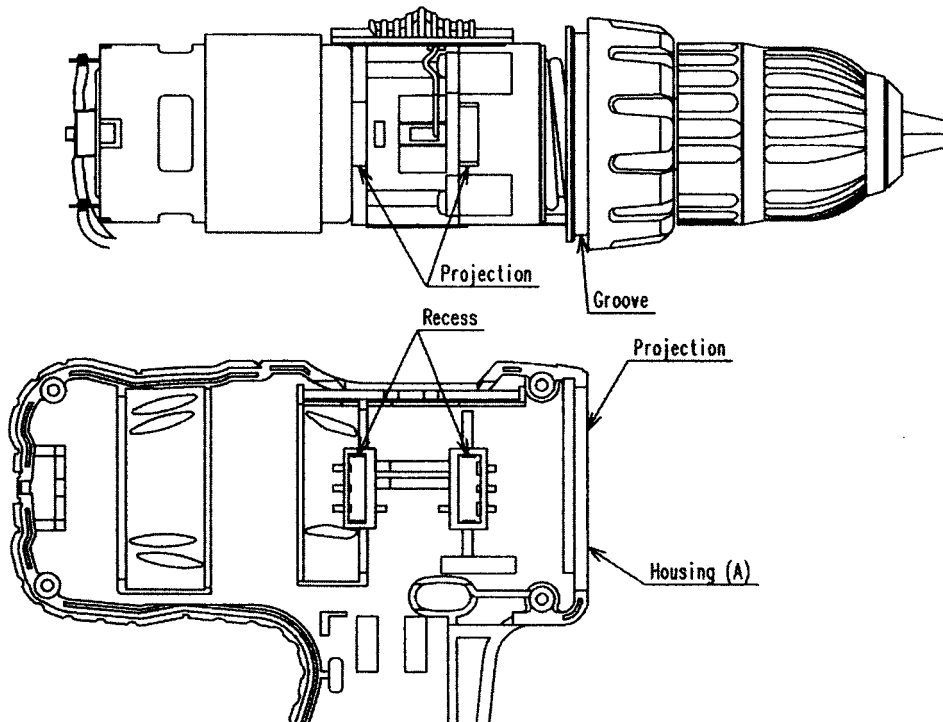

Fig. 13
(4) Installation of the assembly reassembled in step (3) into Housing (A). (B) Set [30]
(a) Install the assembly reassembled in step (3) into housing (A). Note that the projections on the Front Case [9] and the Motor Spacer [24] are engaged in the recesses in housing (A), and the projection on housing (A) is engaged in the groove of the Clutch Dial [4]. (See Fig. 13.)